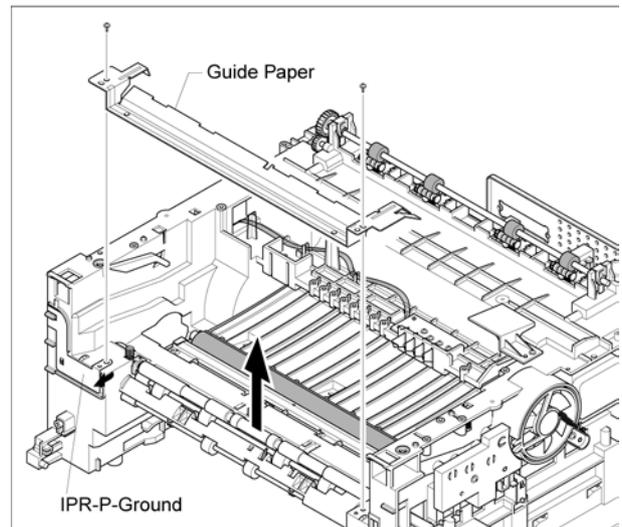

Figure 1
2. Remove 2 screws. Adjust the IPR-P-Ground slightly allowing the Guide Paper to be removed, Figure 1.